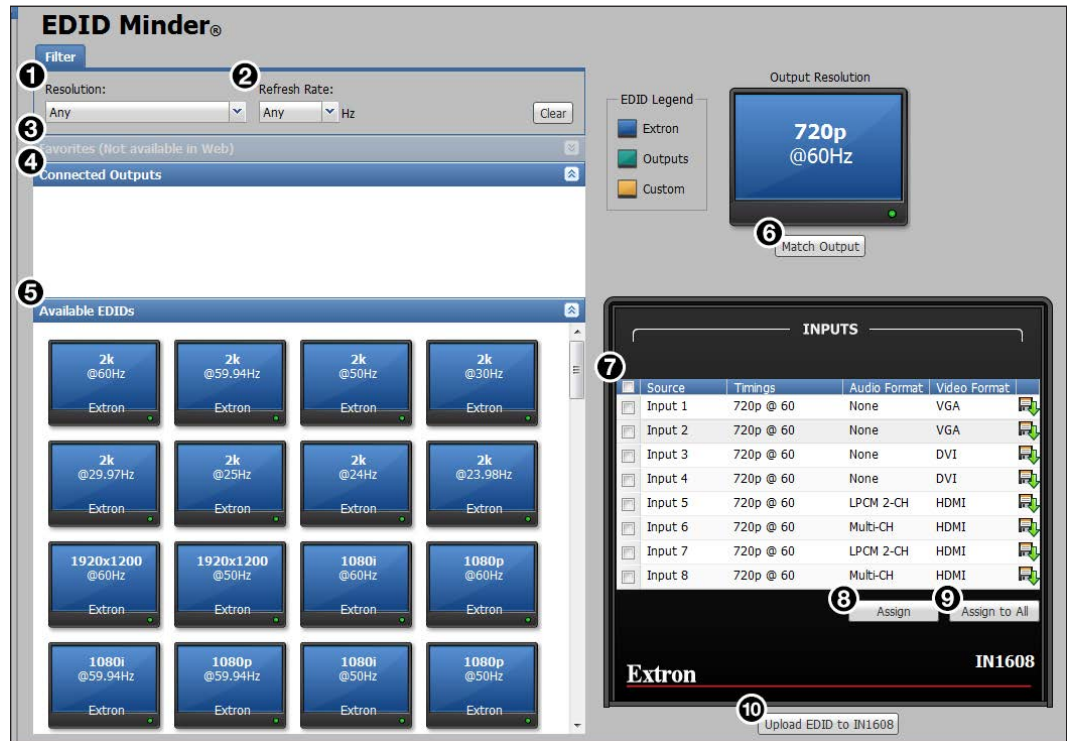

Figure 62. EDID Minder Page (IN1608)
1. From the **Resolution** drop-down menu (see **figure 62, ①**, on the previous page), select a specific resolution or **Any**.
2. From the **Refresh Rate** drop-down menu (**②**), select a specific refresh rate or **Any**.